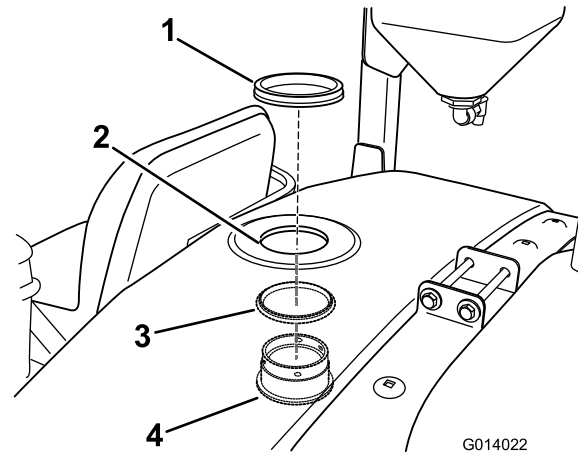

Figure 21
2. Install the bulkhead and the O-ring up from inside the tank through the previously cut opening (Figure 21).